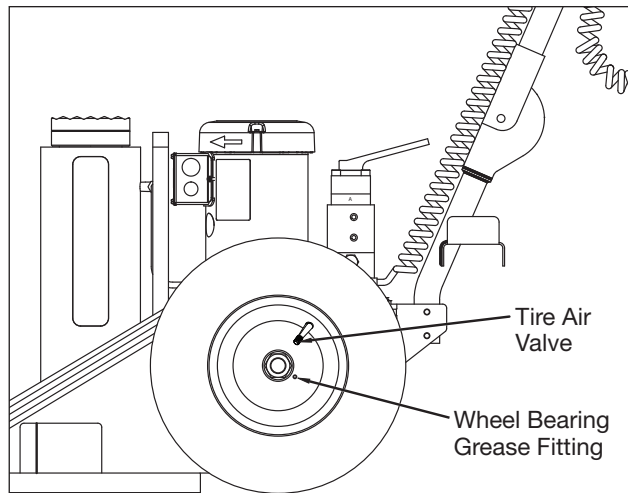

Figure 8, Wheel and Tire Maintenance
6.4 Wheels and Tires (See Figure 8)